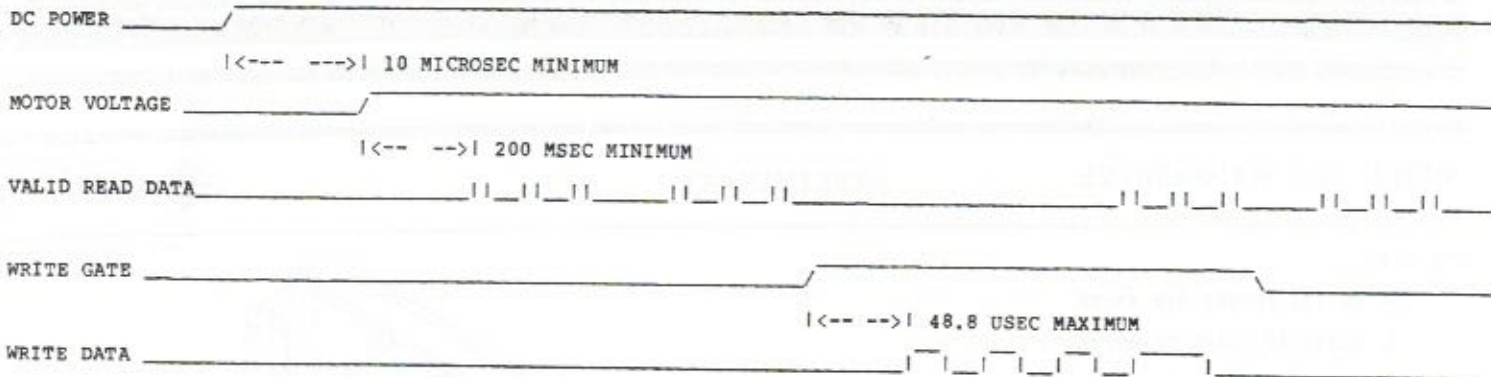

Figure 1. INTERFACE TIMING
- WRITE GATE When Write Gate is low, Write Data will be written on the Microwafer if the Microwafer has not been write protected. Refer to figures 1 and 2 for timing.
WRITE DATA Provides the data to be written on the Micro Wafer. Each transition from a logical one level to a logical zero level or vice versa, will cause current through the R/W head to be reversed thereby writing a data bit. This line is enabled by Write Gate being active. Refer to figures 1 and 2 for timing.
- READ DATA Provides the clock and data pulses as detected by the read/write electronics. Reference figures 1 and 2 for timing and bit shift tolerance within normal media variations.
Reading data from the Model 102 is accomplished by holding Write Gate being inactive and moving the tape at the read/write speed. Writing data to the Model 102 is accomplished by moving the tape at the read/write speed, activating the Write Gate line, and pulsing the Write Data line with the data to be written. The timing relationships required to initiate a write data sequence are shown in figures 1. Moving the tape at read/write speed is accomplished by storing the appropriate binary value in the Motor Control Register, monitoring the motor speed line and adjusting the value in the Motor Control Register until the motor speed is within an acceptable tolerance.